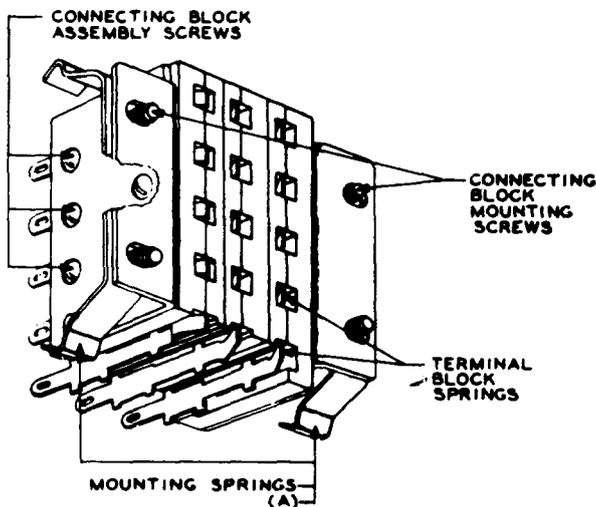

Fig. 3 — No. 18A Connecting Block
2.03 Relay Mounting — Fig. 3(A) — The relay shall be held securely by the associated mounting plate and connecting block.